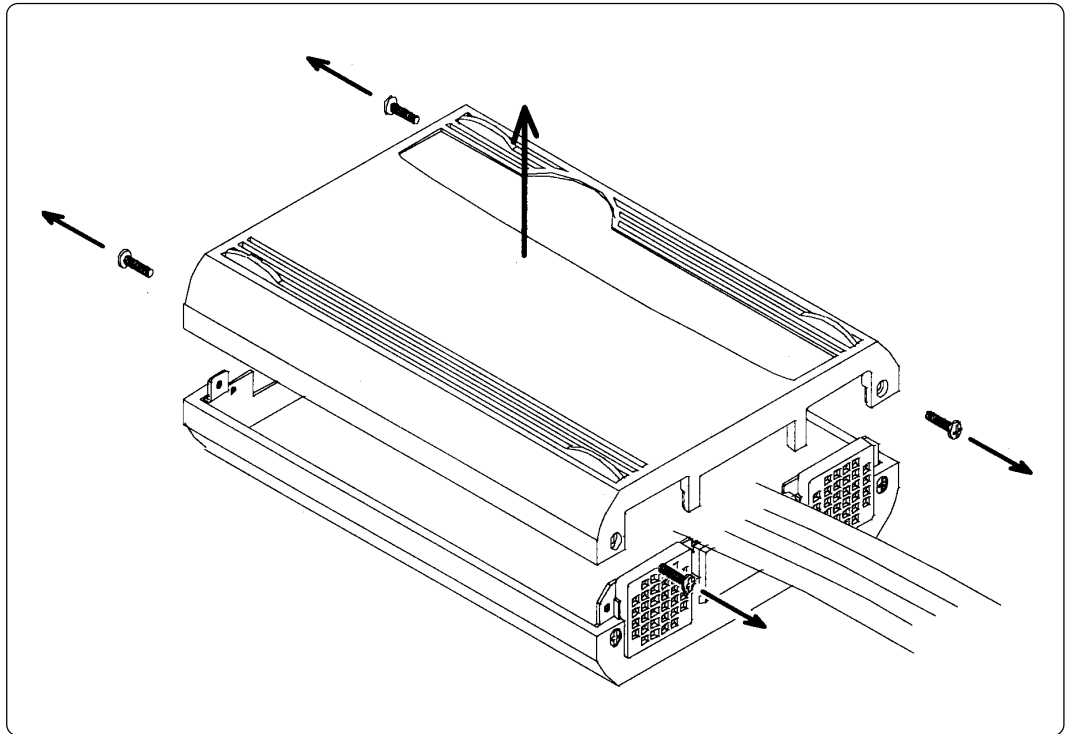

Figure 4.1 Removing the upper cover
- (1) Remove the four screws of both sides and lift off the upper cover. (see Figure 4.1)
- (2) Change the input frequency following the instructions shown below.
- (3) Replace the upper cover and tighten the four screws.